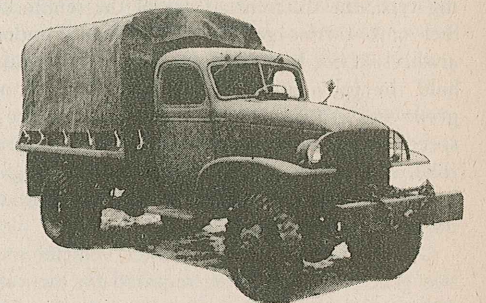

FIG. 6. 1½-TON, 4X4, TRUCK
*The 1½-ton, 4 x 4.*—This is a general-purpose truck which may be used as a prime mover for 75-mm. field guns (Fig. 6).